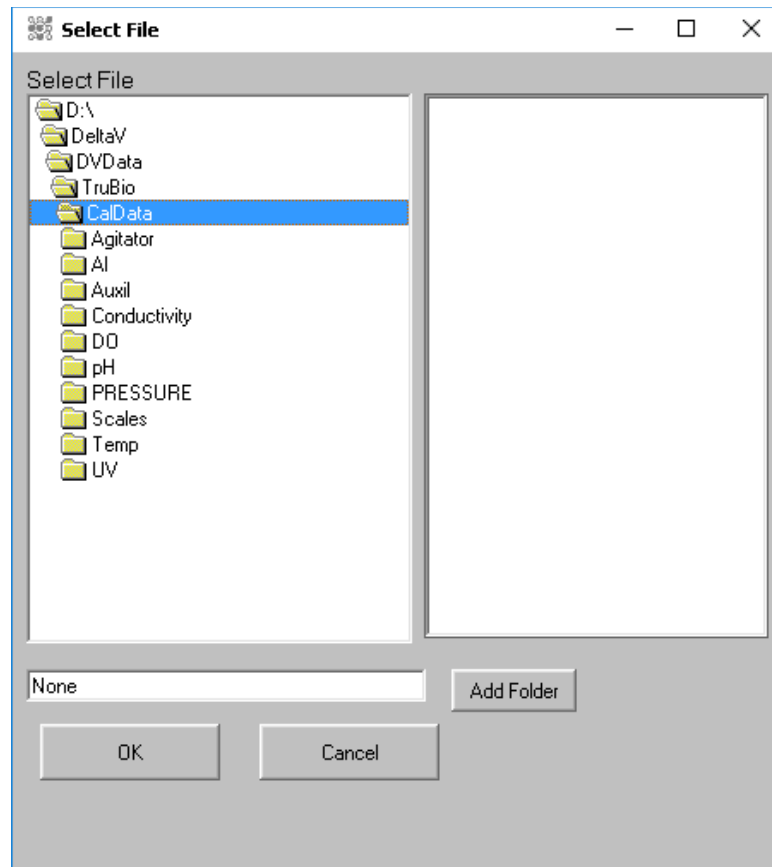

Figure 2.24. Calibration files under probe heading.
4. Select either pH or DO, select the TruFluor option, and select the probe to see the calibration files (Figure 2.24).